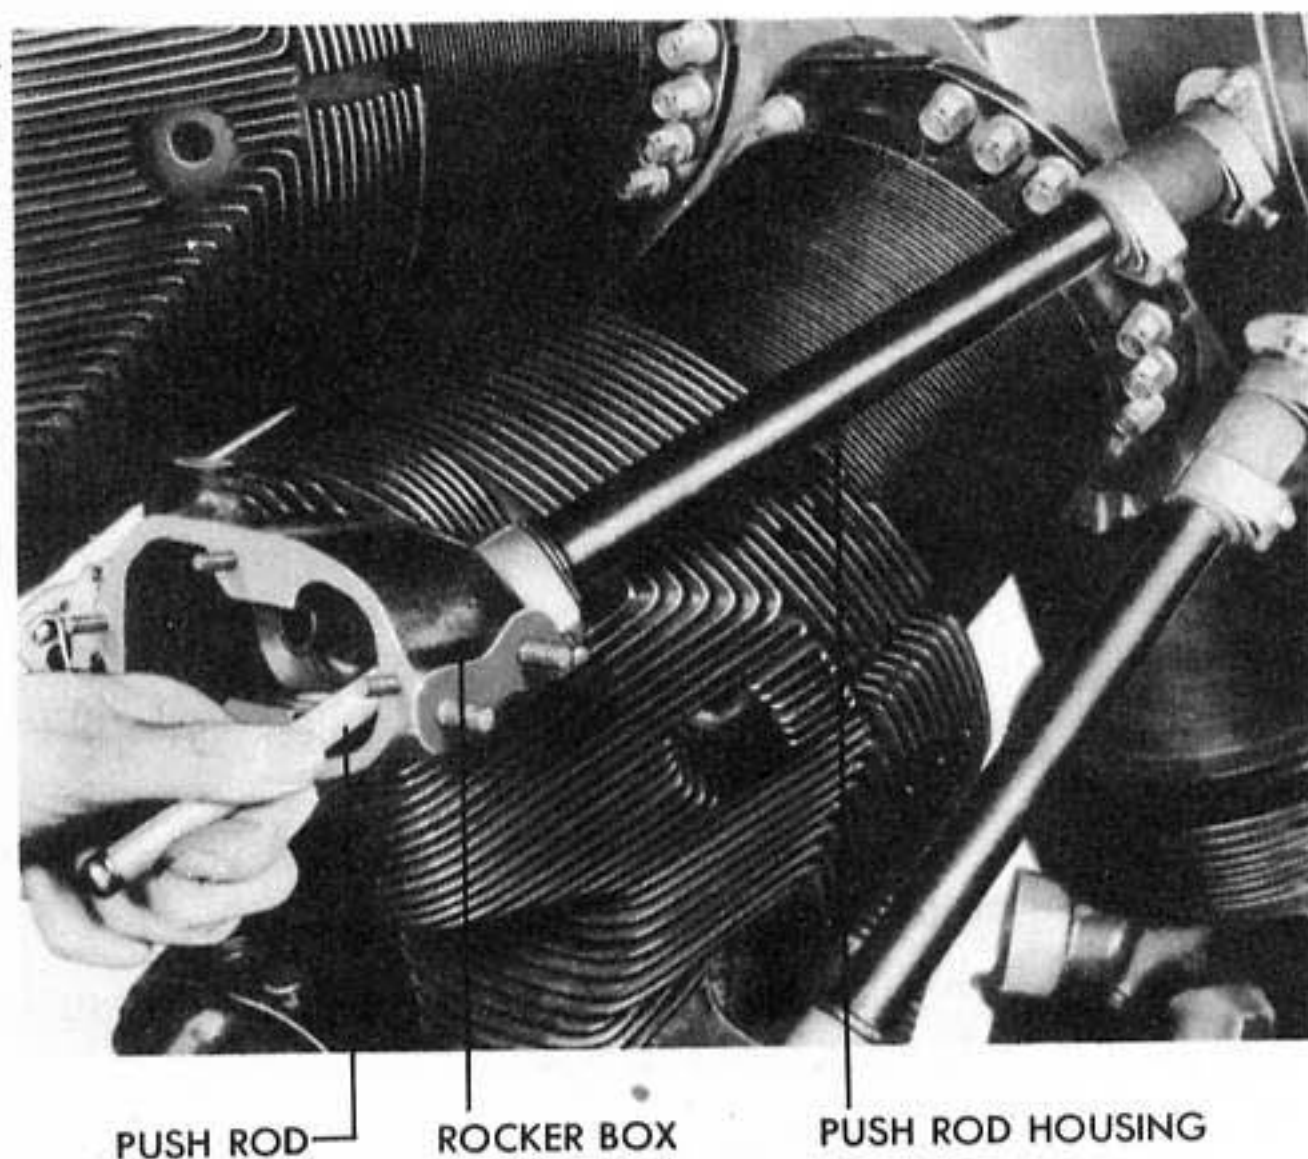

Figure 104 - INSTALLING PUSH ROD
- b. Oil the push rod ball sockets with engine oil, and insert in push rod housing through the rocker box. (See figure 104.)